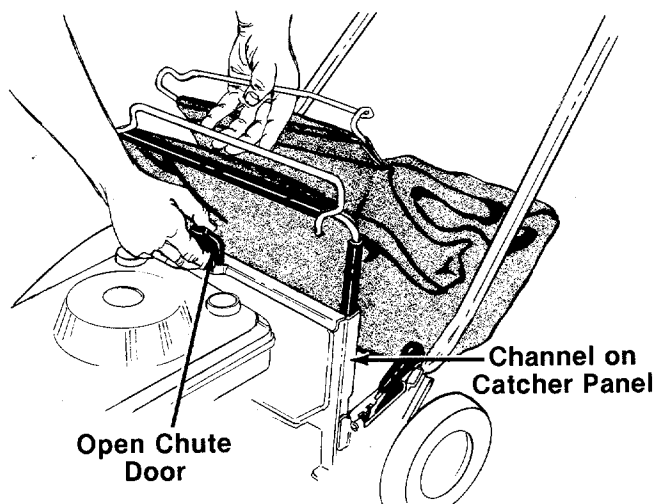

FIGURE 22.
1. Hold the chute door on the catcher panel open as shown in figure 22.